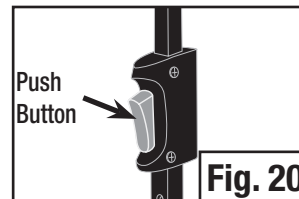

Fig. 20
- Lower the frame one post at a time by pressing the push button locks located on lower portion of posts. (Fig. 20)